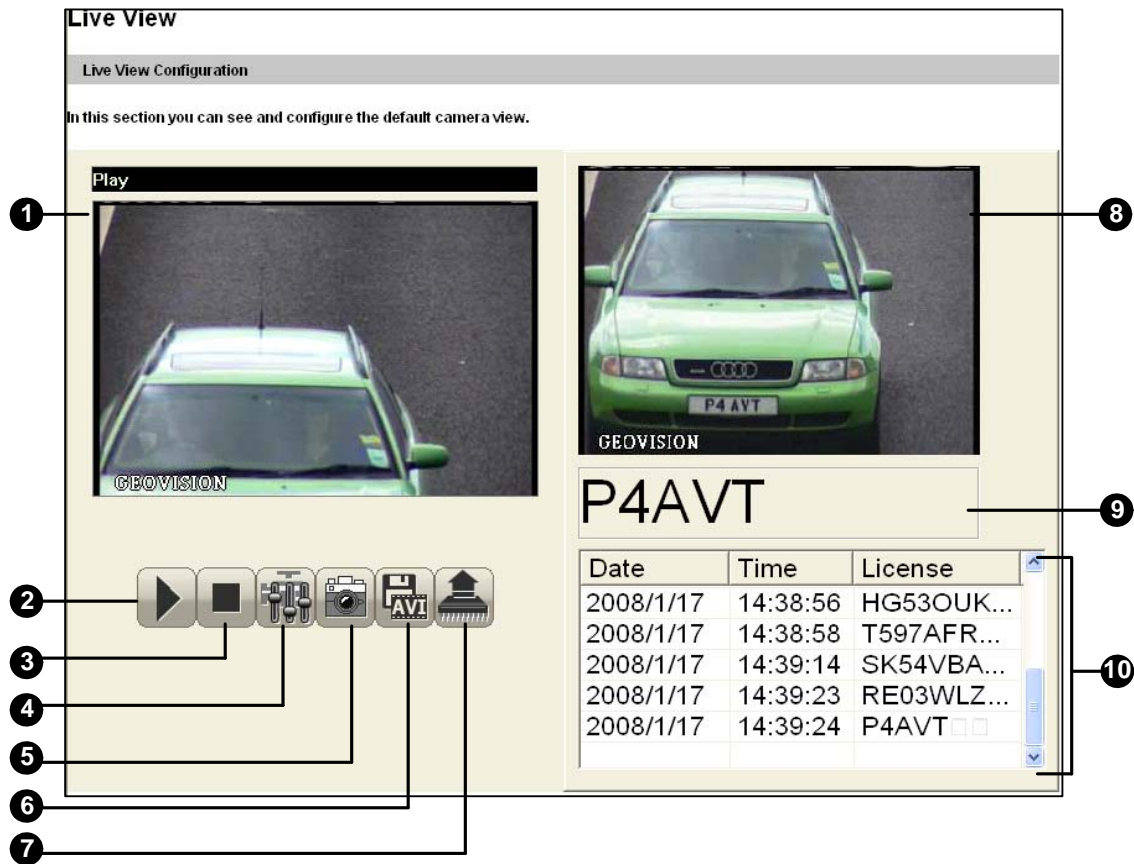

Figure 3-3
1. Click the **Remote Config** button (No. 4, Figure 3-3).
1. Click the **Snapshot** button (No. 5, Figure 3-3). The Snapshot window appears.
1. Click the **File Save** button (No.6, Figure 3-3). The Save As dialog box appears.
3. To stop recording, click the **Stop** button (No.3, Figure 3-3).